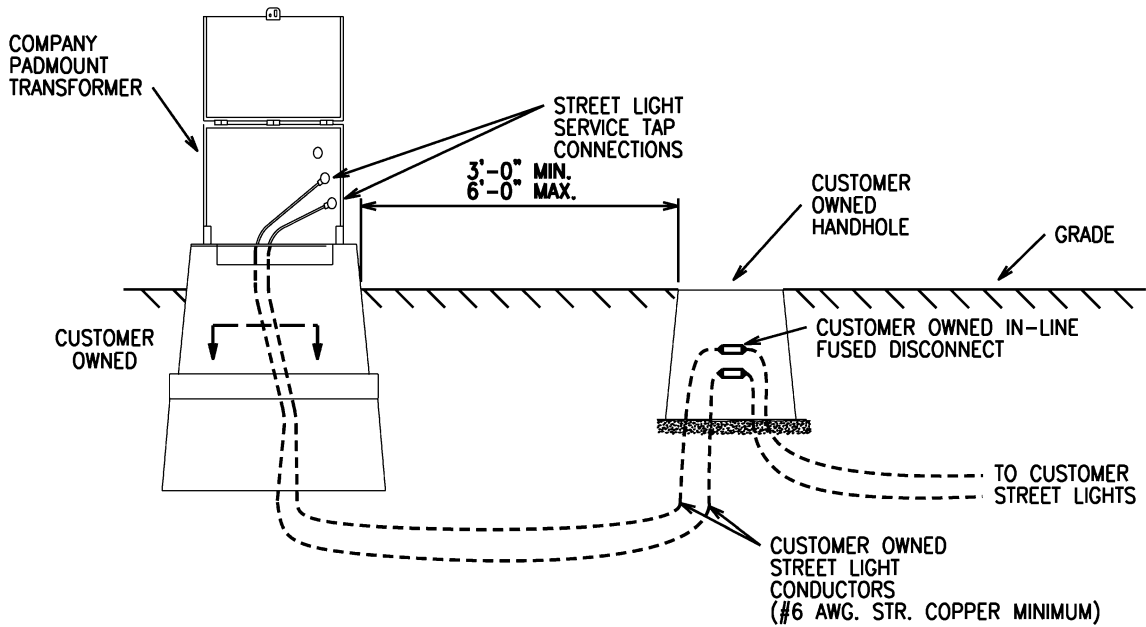

Figure 67 – Connection of Underground Supplied Street Light to PPL Padmount Transformer
1. Install customer owned handhole as shown in Figure 67. Customer owned handhole shall house the in-line fused disconnect. See page 46-817 for details on the in-line fused disconnect.